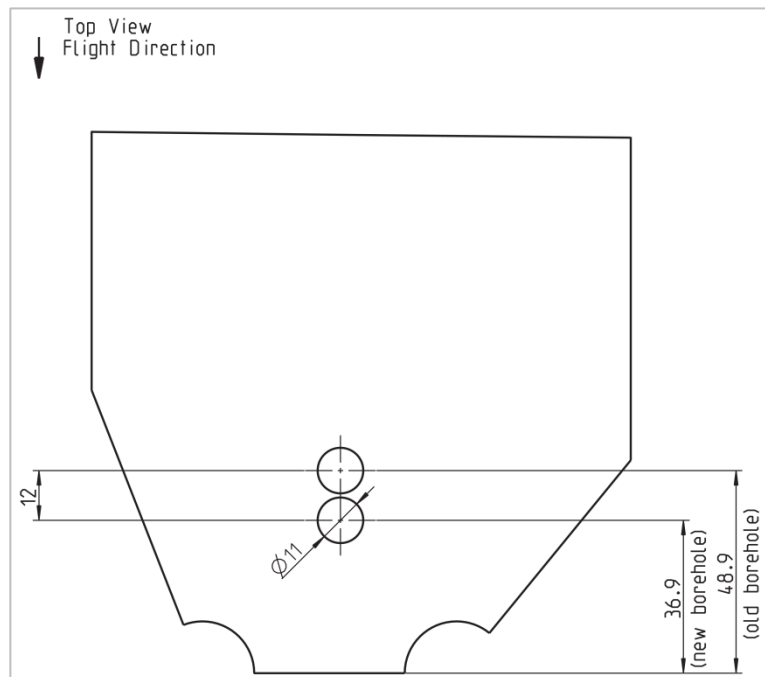
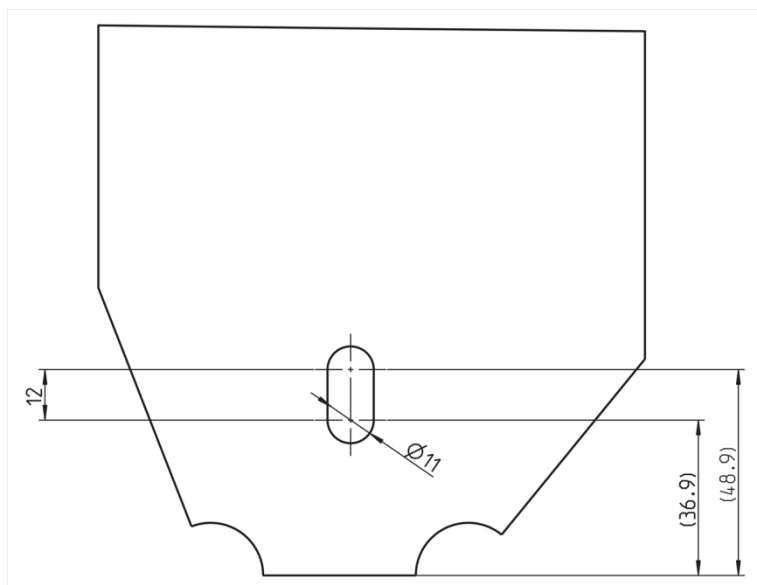

Figure 2: Dimensions for rework
Figure 3: Dimensions for rework if necessary
- Drill a new borehole with a diameter of 11 mm in a centre distance of 12 mm to the existing one (in flight direction). For details see figure 2. If the material between the 2 boreholes is less than 1.3 mm make an elongated hole according to figure 3.